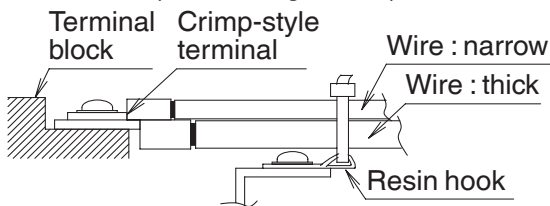

**FIGURE N.2**
**IMPORTANT: WHEN 2 WIRES ARE CONNECTED TO A SINGLE TERMINAL, CONNECT THEM SO THAT THE REAR SIDES OF THE CRIMP CONTACTS FACE EACH OTHER. ALSO, MAKE SURE THE THINNER WIRE IS ON TOP, SECURING THE 2 WIRES SIMULTANEOUSLY TO THE RESIN HOOK USING THE INCLUDED CLAMP.** (Refer to Figure N.2)